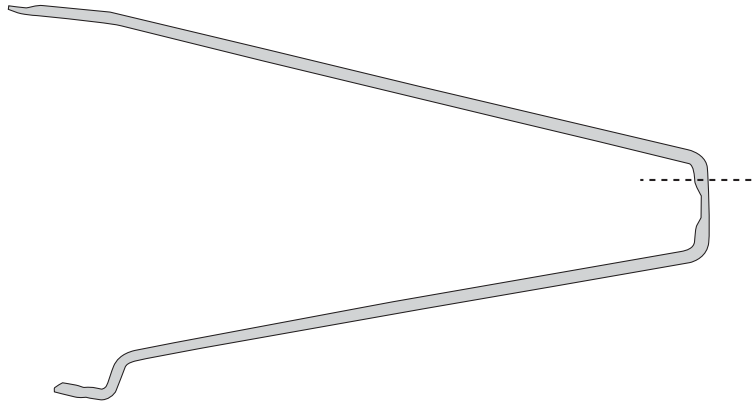

Figure 25
- B. Start by cutting the support rod on the line shown below (fig. 25). The flat area should be retained in order to remount the support rod in the factory location in the rear wheel well.